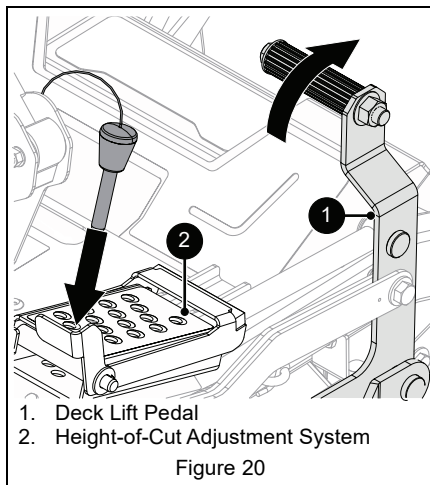

Figure 20
5. Set cutting height. See Figure 20.